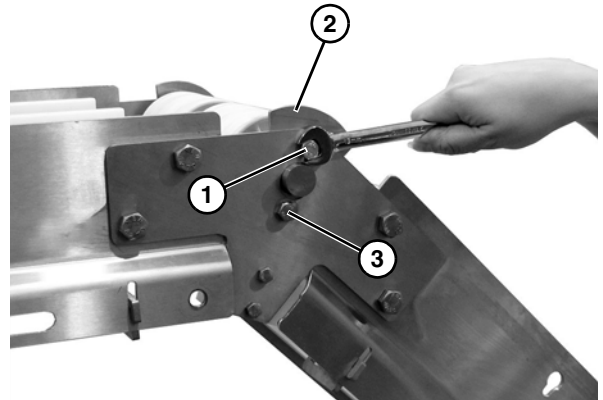
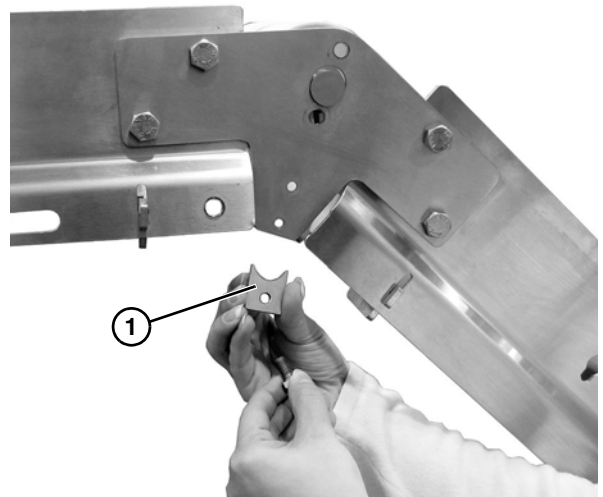

Figure 69
Figure 70
2. Remove cap screw (**Figure 69, item 1**) and edge guide plate (**Figure 69, item 2**) from each side of the conveyor.
3. Remove the cap screw (**Figure 69, item 3**) and shaft clamp (**Figure 70, item 1**) from each side of the conveyor.